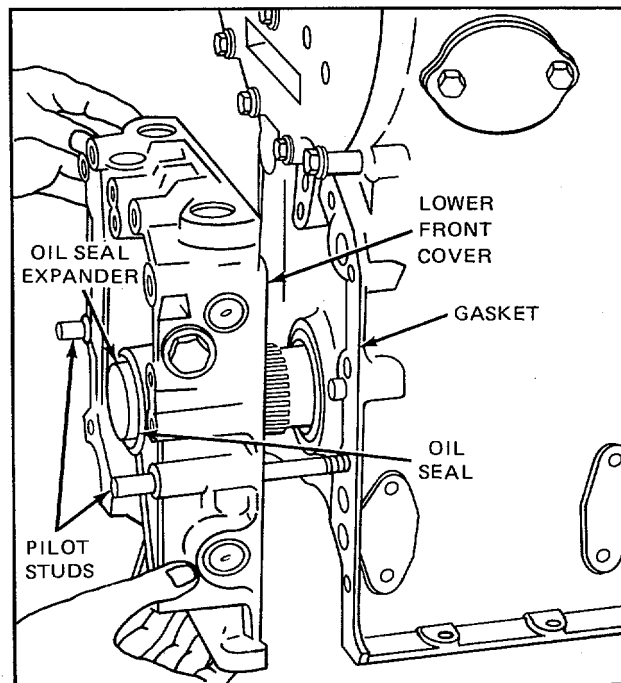

Figure 2. Installing Lower Engine Front Cover - In-Line Engine
3. Thread two 3/8-16 pilot studs approximately 8 inches long into two diametrically opposite boltholes in the cylinder block to guide the cover in place (Fig. 2).
4. Apply a light coat of cup grease to the lip of the oil seal. Slide the engine front cover over the oil seal expander and pilot studs as shown in Fig. 2. Push the cover forward until the inner rotor of the oil pump